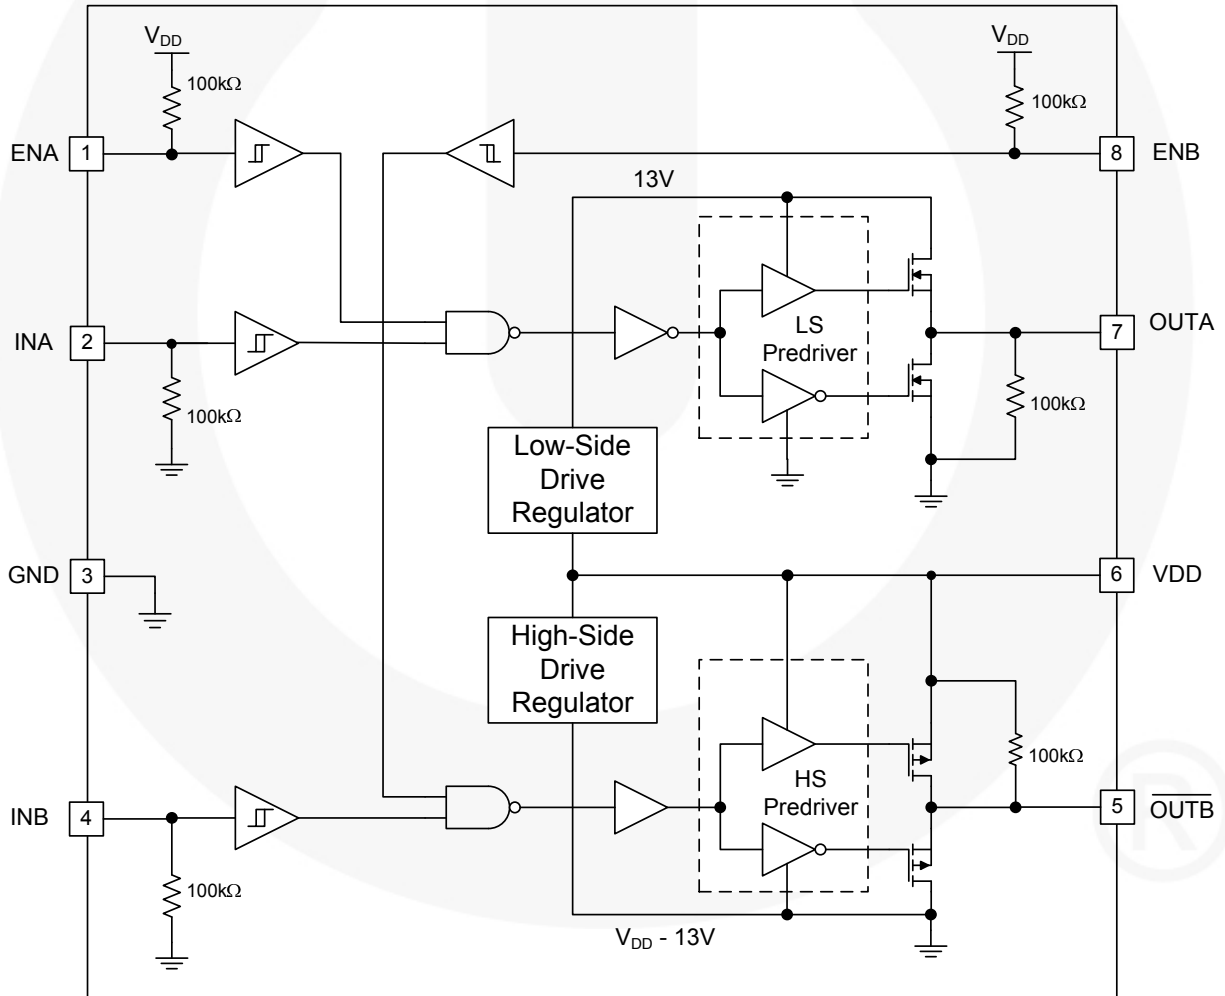

Figure 4. Block Diagram
12. For any inverting inputs pulled LOW, non-inverting inputs pulled HIGH, or outputs driven HIGH; static  $I_{DD}$  increases by the current flowing through the corresponding pull-up/down resistor, shown in Figure 4.